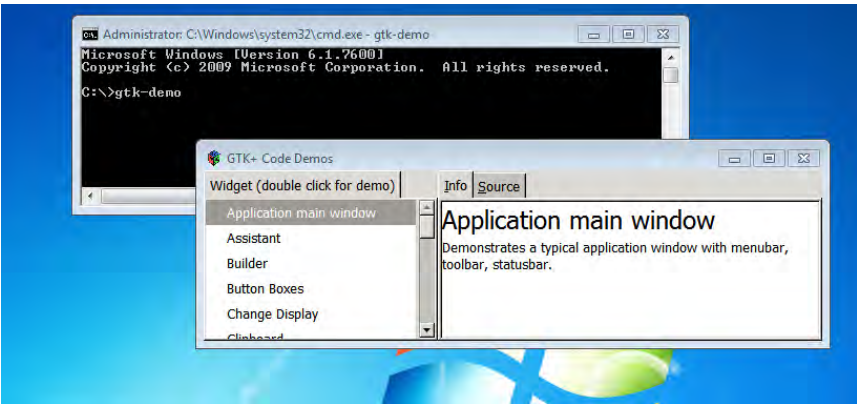

Figure 5-21. Testing the gtk-demo program
4. Test the installation. Open a command prompt (Start→All Programs→Accessories→Command Prompt). Type `gtk-demo` and press Enter (Figure 5-21).